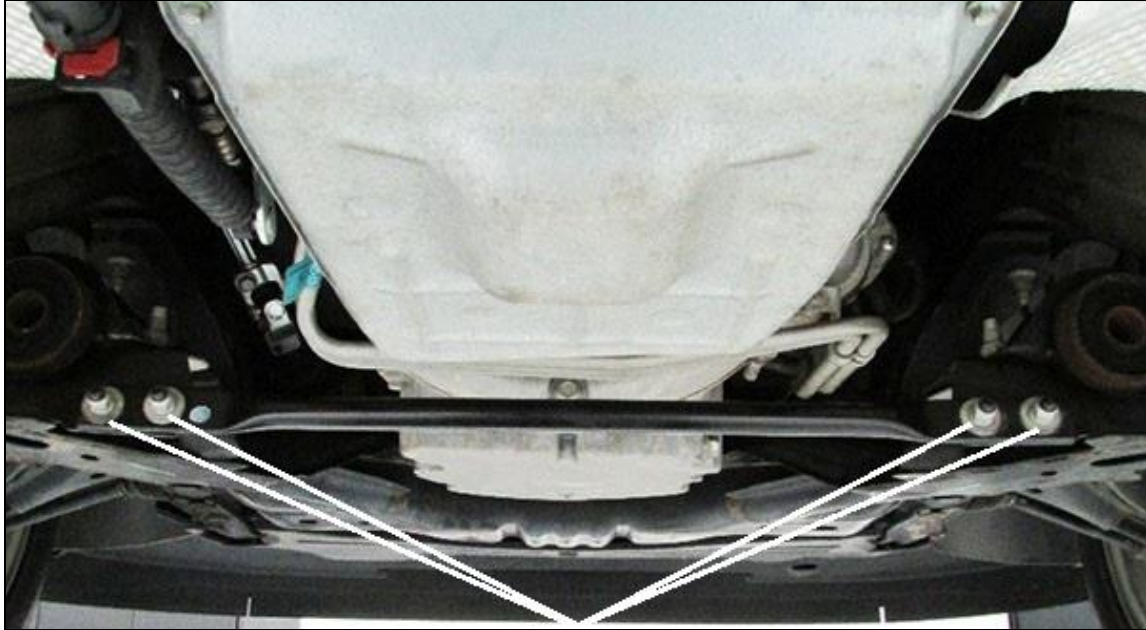

Figure 1
4. Remove the center cross brace by removing (x4) 15mm head nuts (**Figure 1**).